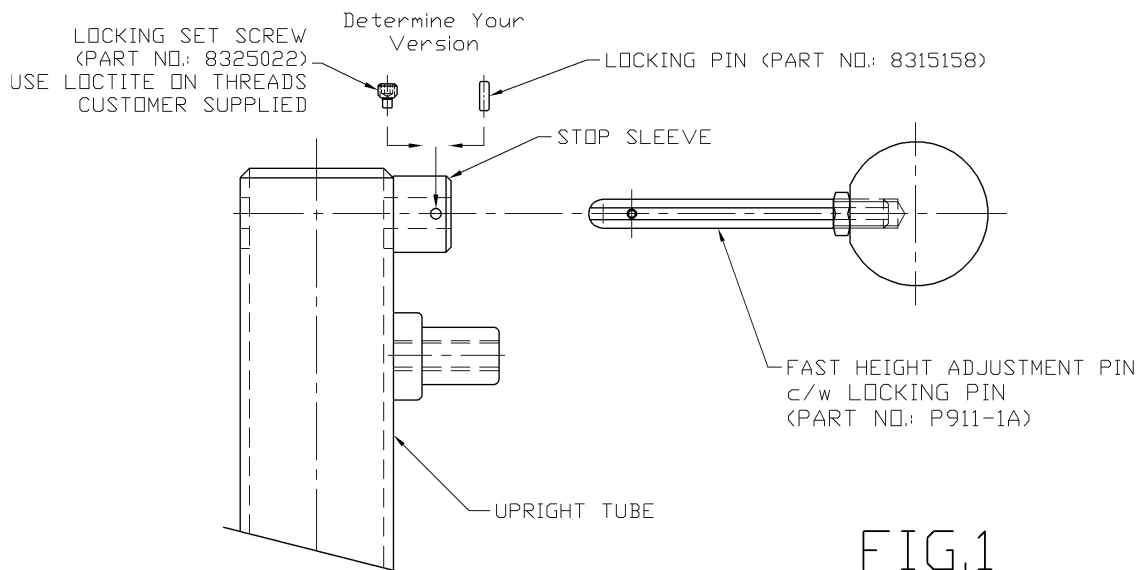

FIG.1
- Determine the version of **Fast Height Adjustment Pin Stop Sleeve** you have, does it have a **Locking Pin** or **Locking Set Screw** (see FIG 1)?
1. Remove the damaged Fast Height Adjustment Pin from the Upright. If the Fast Height Adjustment Pin is already removed, ensure that the old **Locking Pin** or **Set Screw** has also been completely removed (see FIG. 1).
- (a) Push the new Fast Height Adjustment Pin fully into the Upright Tube through the Stop Sleeve. Ensure that the groove in the Fast Height Adjustment Pin aligns with the **Locking Pin / Setscrew** hole in the Stop Sleeve as shown in FIG. 1.
- (b) Tap the New Locking Pin or screw the new setscrew into the Stop Sleeve (see FIG 1.)